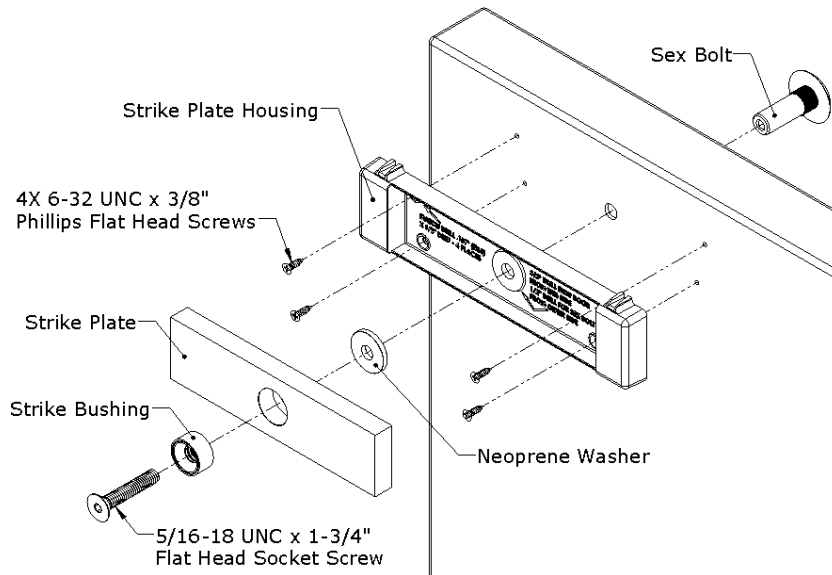
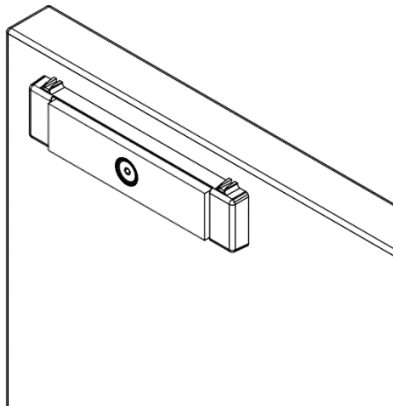
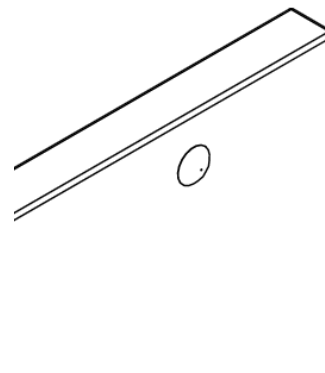

Figure 15. Installing the Strike Plate Assembly
Figure 16. Strike Plate Assembly Installed – Inside Door
Figure 17. Strike Plate Assembly Installed – Outside Door
**NOTE:** Figure 15, “Installing the Strike Plate Assembly,” Figure 16, “Strike Plate Assembly Installed – Inside Door,” and Figure 17, “Strike Plate Assembly Installed – Outside Door,” provide illustration for the following steps.
- b. ATTACH the strike plate housing using the four (4) 6-32 x 3/8" Phillips flat head screws.
- d. INSERT the 5/16-18 X 1-3/4" flat head socket screw through the strike bushing, strike plate, one (1) neoprene washer, strike plate housing and door into the Sex Bolt.